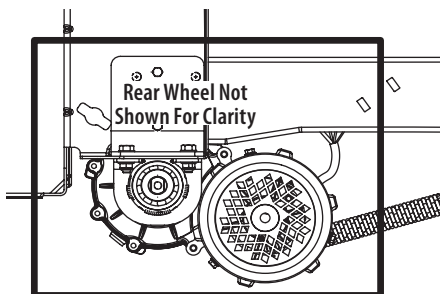

Figure 31
- Clean around and near the transmission and axle (Figure 31).